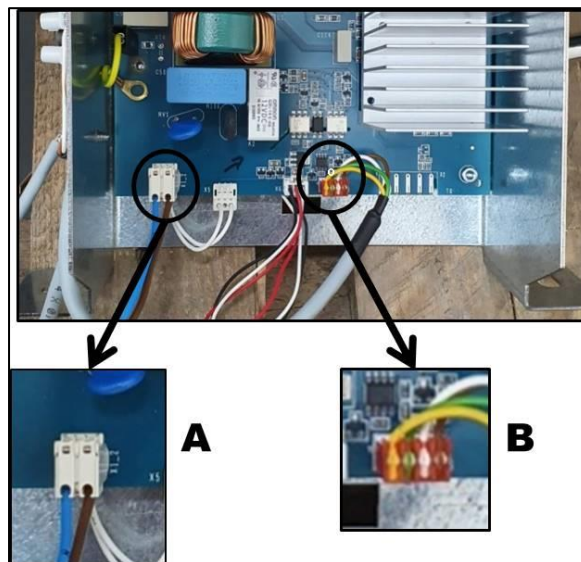

Fig.2.7
15. Connect the power supply cable **A** and the communication cable **B** (Fig. 2.7).